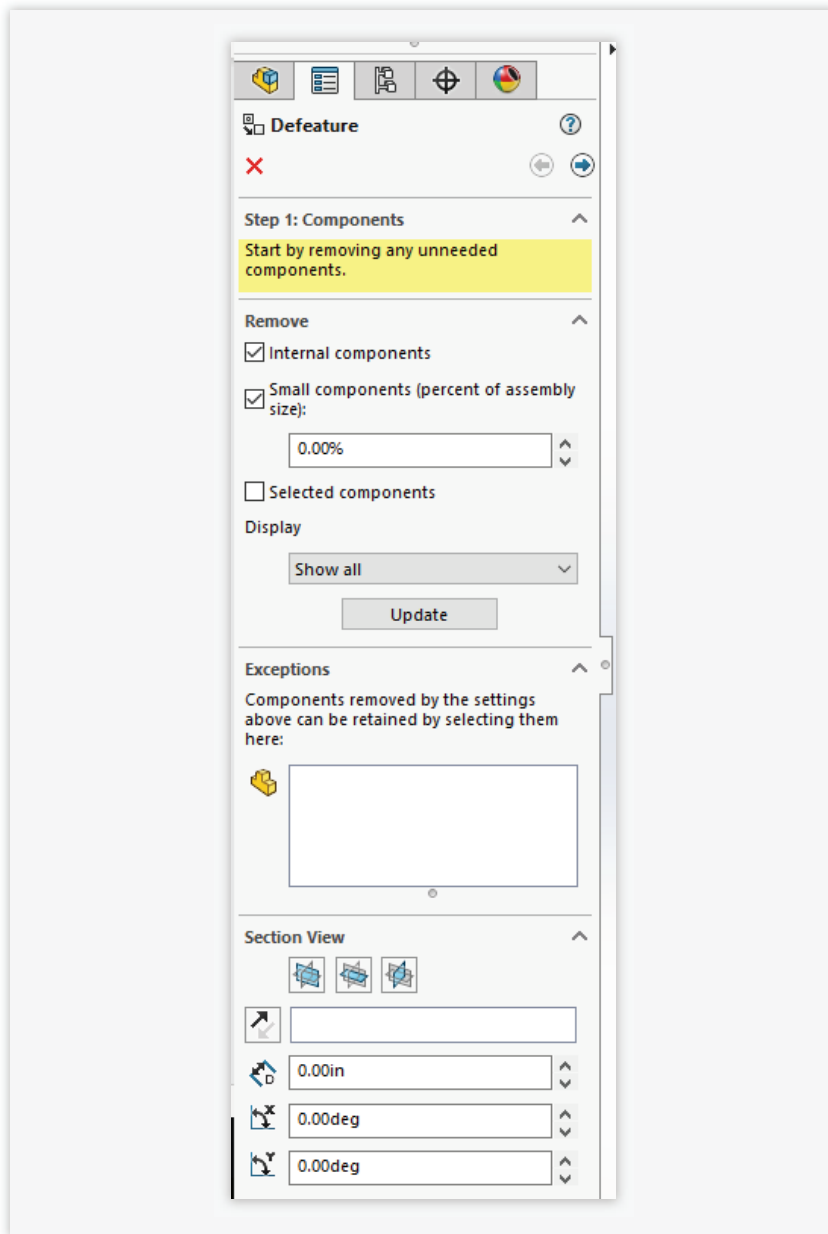

Fig. 22
2. Enable to remove all internal components. See Fig. 22.